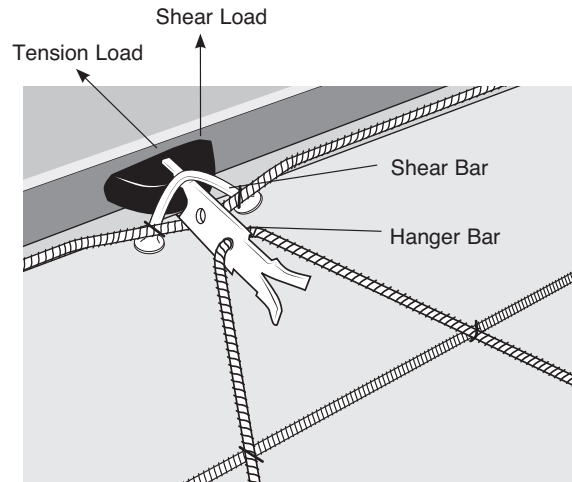

Fig 2. Hanger Bar Installation
- Shear bars provide shear resistance when tilting and the hanger bar provides the restraint for the vertical lift. (ref. Fig 2)